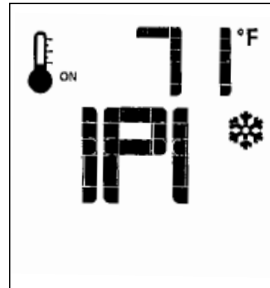
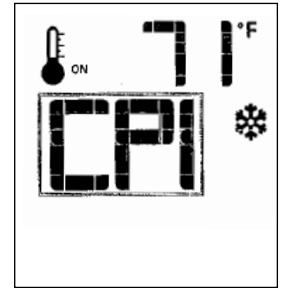

Fig. 14.4. IPI is the default position.
Fig. 14.5. CPI ON.
- With the transmitter in the OFF position, press the transmitter Mode key - IPI is the default mode. Fig. 14.4. Press the Up arrow to index to the CPI icon and activate the Continuous Pilot Ignition mode. Fig. 14.5. Pressing the Down Arrow Key will return to Intermittent Pilot Ignition. A single “beep” will confirm reception of the command.